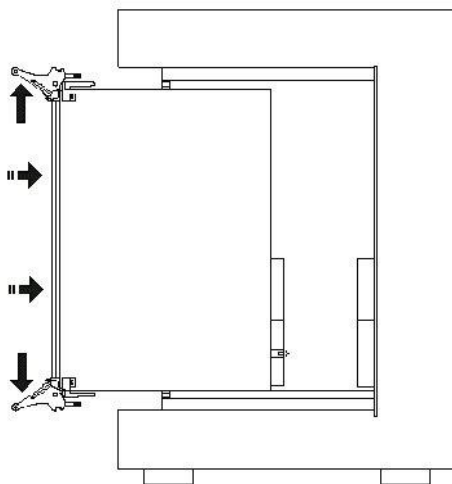

Figure 3-2: Ejector handle position during module insertion
5. Carefully slide the PXI board to the rear of the chassis, make sure that the ejector handles are pushed out (as shown in Figure 3-2).